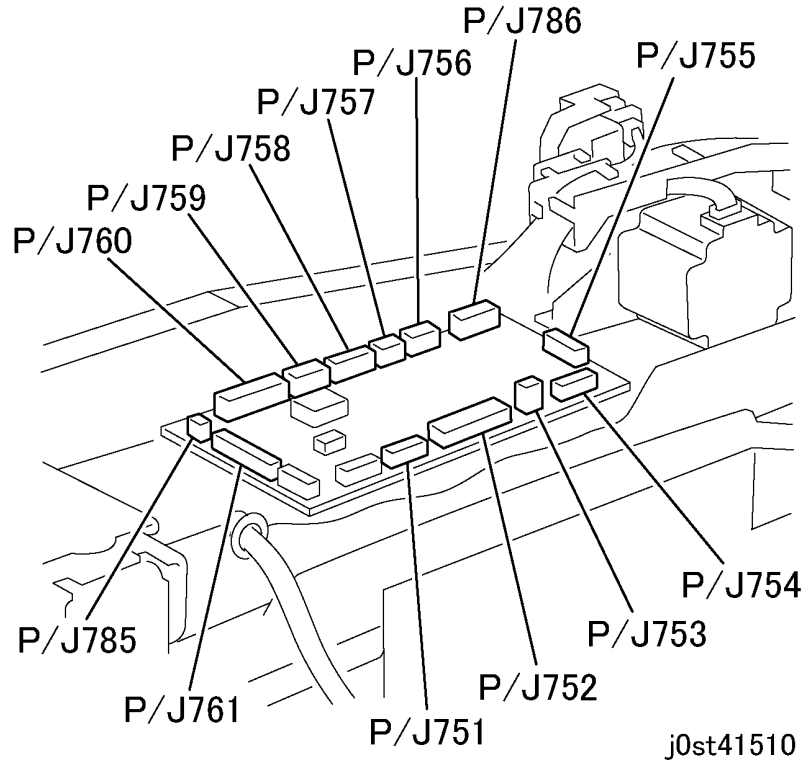

Figure 1 Disconnecting the DADF PWB connectors
2. Disconnect the DADF PWB connectors. (Figure 1)